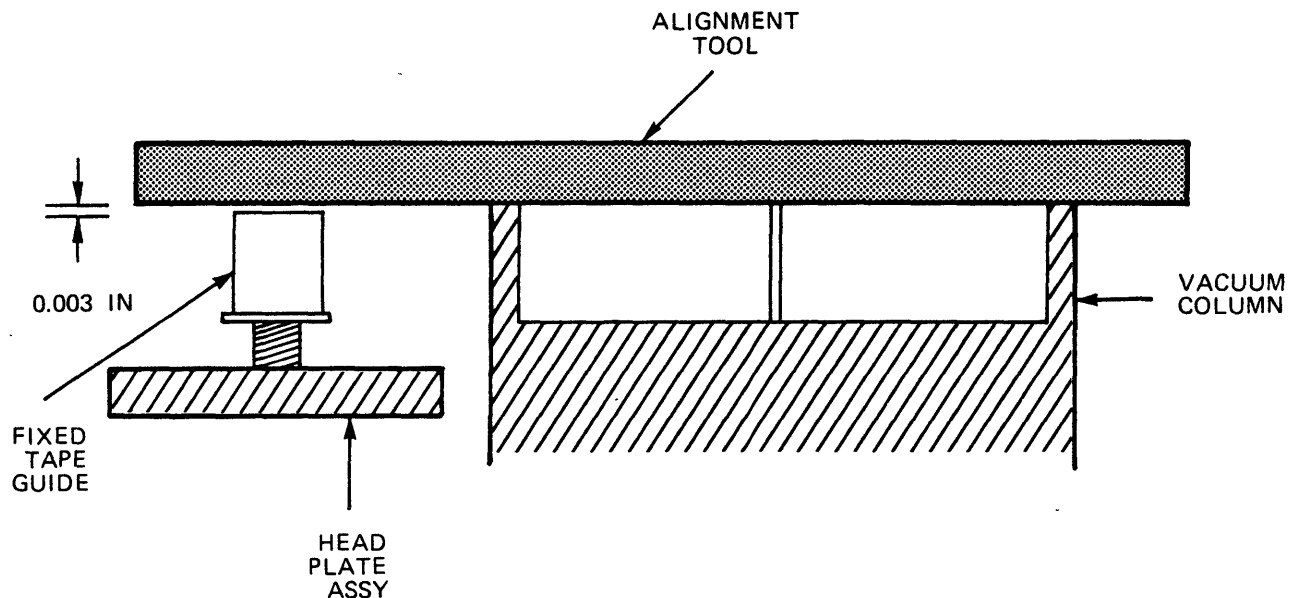

Figure 5-11. Tape Guide Roller Alignment Tool Positioning
- d. Position the alignment tool against each guide roller, one at a time. In each case, the alignment tool should line up as illustrated in figure 5-11. The .0015 edge of the tool is for height and the .0375 edge is for offset.